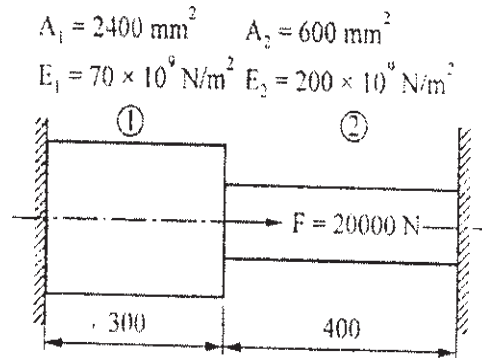

Fig. 2
- b) A stepped bar is as shown in the fig.2. An axial load  $F = 20000\text{N}$  is applied as shown. Using the FEA method calculate the following [12]